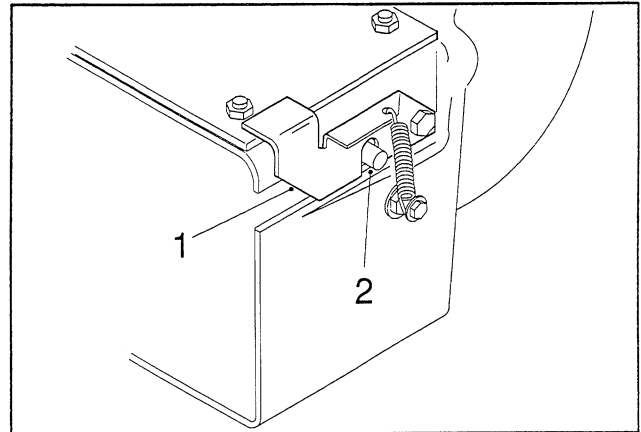

Figure 5
3. With the belt installed, swing the blower toward the mower until the blower latch locks over the pin at the back of the mower (Fig. 5).